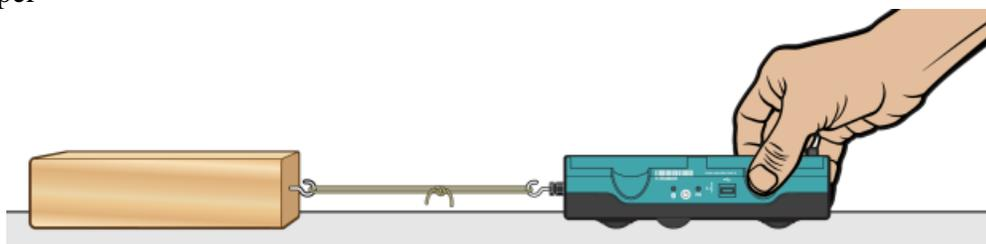

Figure 1
3. Set the Sensor Cart on the tabletop in the position shown in Figure 1. Making sure nothing is touching the hook, click or tap the Force meter and choose Zero to zero the force sensor.
5. Slowly pull the wooden block across a piece of wood with a smooth surface (see Figure 1). Hold the Sensor Cart by its sides and pull it toward you, as demonstrated by your teacher. Once the wooden block is moving at a steady rate, click or tap Collect to start data collection.